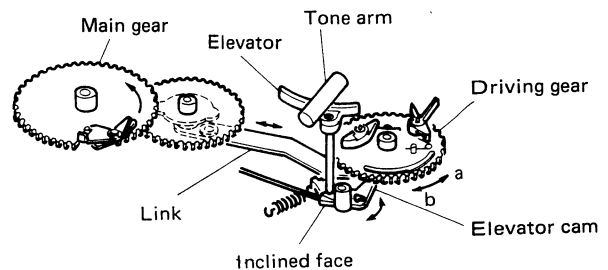
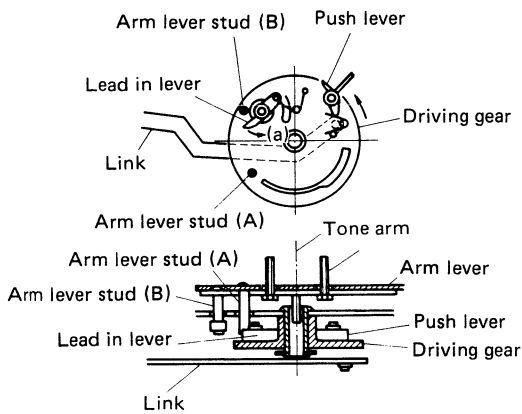

Fig. 6
Fig. 7
When the starting cycle begins and the main gear rotates, the driving gear is turned reciprocally by the link to reciprocate the elevator cam, as shown in Fig. 6.
As the elevator cam moves, its inclined face lifts the elevator, which in turn lifts the tonearm. In Fig. 7, the lead-in lever is moved in the direction (a) by the counterclockwise rotation (b) of the driving gear, as shown in Fig. 6. As a result, the lead-in lever passes the arm lever stud (A) without touching it. Therefore, the arm lever does not move. During the next process shown in Fig. 8, the lead-in lever strikes against the reset plate and is pushed back in the direction (a). When the driving gear returns in the clockwise direction (B), this time the lead-in lever pushes the arm lever stud (B), and the arm lever stud is moved in the direction of the arrow, as shown in Fig. 9. This finishes the final stage of the lead-in operation.